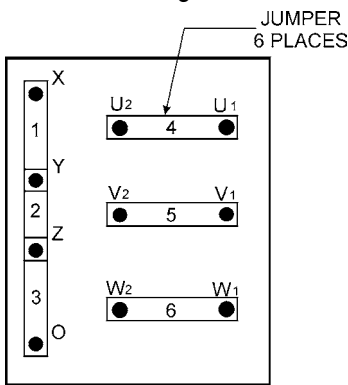

Figure 18. Voltage Change-Over Board 240V Configuration
1. Jumper the voltage change-over board for 240V operation as shown in Figure 18.
1. Make sure the voltage change-over board is jumpered for 240V operation as shown in Figure 18.